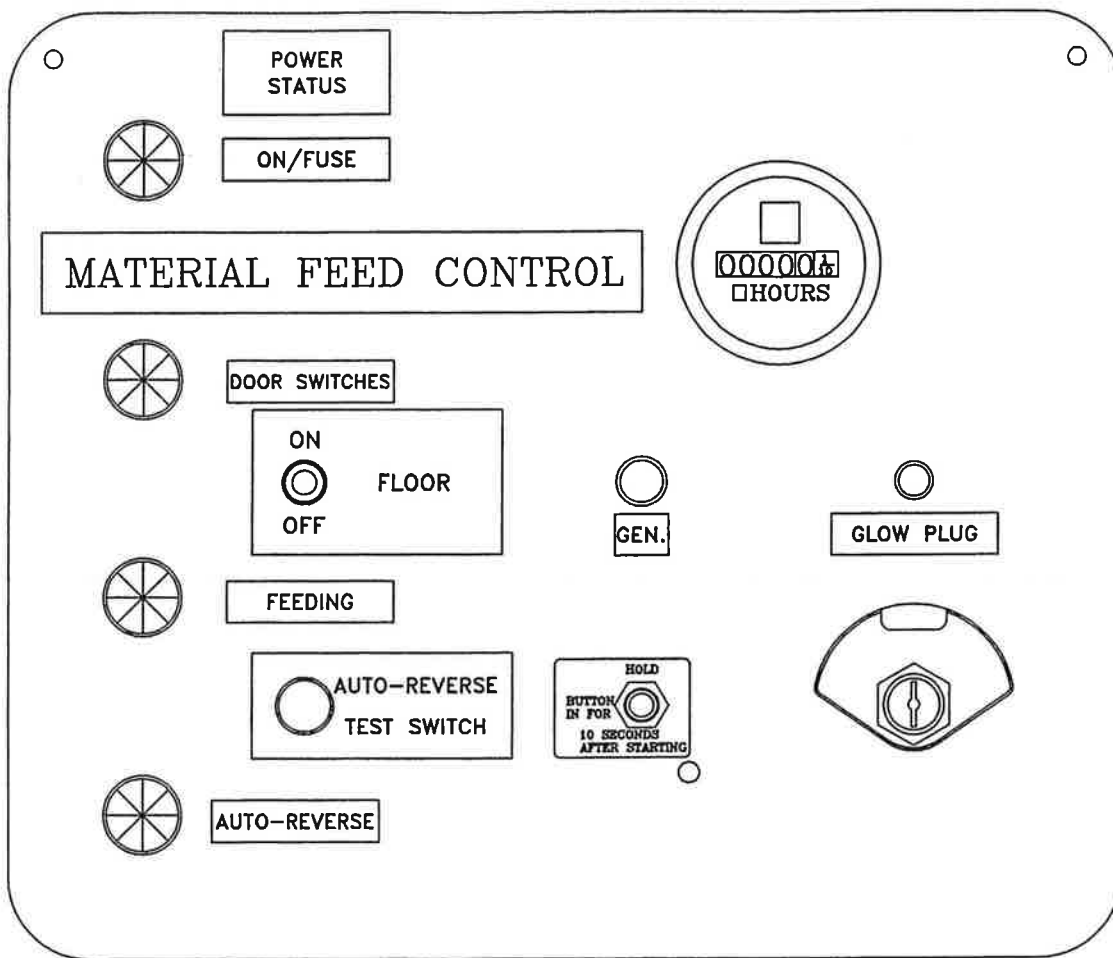

Figure 2
5. Check that the "ON/FUSE" and "DOOR SWITCH" lights are illuminated. If not, check the 10 AMP fuse in the control box (see Figure 2) and verify that the doors are closed at the rotary air valve.
When the "start" button is pushed, the CR1 and CR2 relays in Figure 2 are energized. This in turn energizes the "forward" solenoid on the solenoid valve, starting the air lock and the drag conveyor, assuming the conveyor toggle switch is "on". As material drops into the top of the rotary air valve, the pressure to turn the rotary air valve varies. If the pressure reaches the relief valve setting in the solenoid control valve, the oil is channeled through the relief to the hydraulic tank. Placed in the forward work line is a normally open pressure switch. When the pressure in the work line exceeds the pressure switch setting, the switch then closes and activates timer TR1.
Bark Blower with Power Status Lights: (See Figure 2)